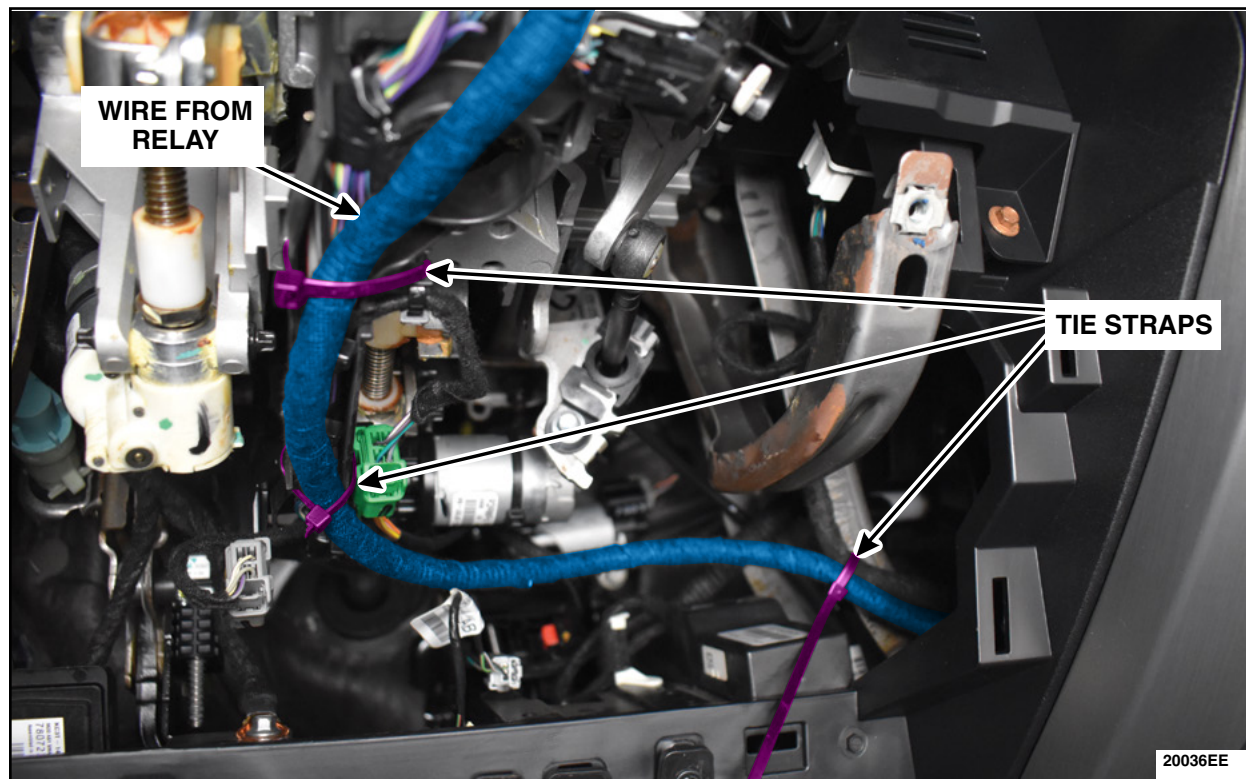

FIGURE 32
50. Secure the wire from the relay using tie straps. See Figure 32.